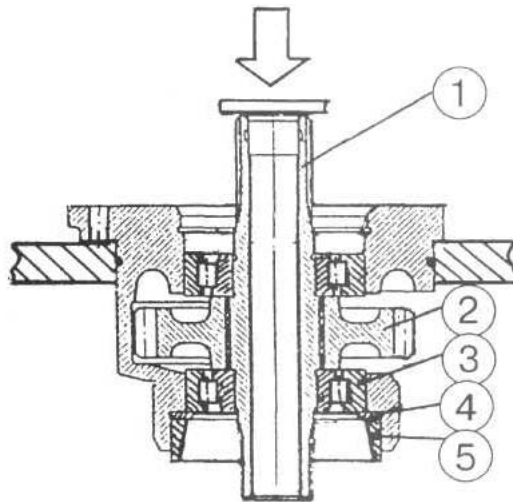

Figure 4.112
e) put glass on stand and press out shaft 1 (Figure 4.112) with bearing 3, thrust ring 4, shell of bearing 5;